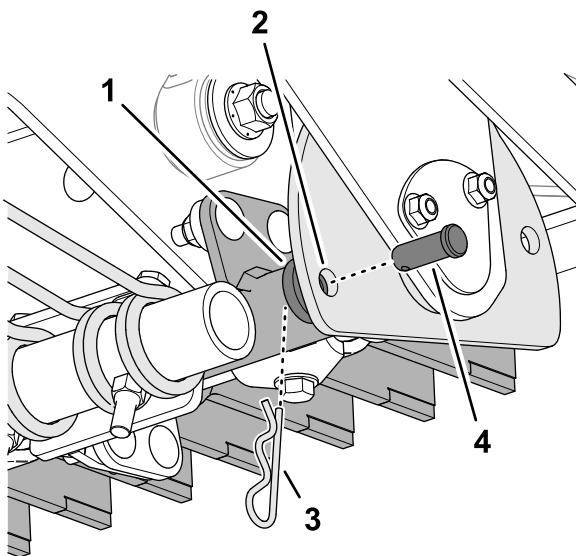

Figure 14
3. Remove the hairpin and clevis pin that secures the multi-tool arm to the angle-select plate (Figure 14).